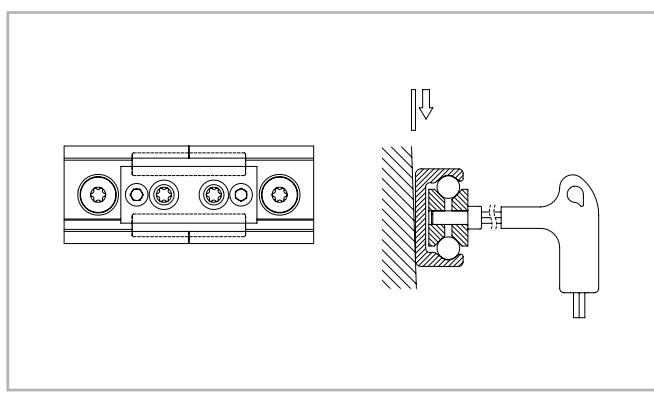

Fig. 174
(3) Place the alignment fixture on the rail joint and tighten both set screws uniformly, until the raceways are aligned (see fig. 174).
(4) After the previous step (3) it must be checked if both rail backs lie evenly on the mounting surface. If a gap has formed there, this must be shimmed.